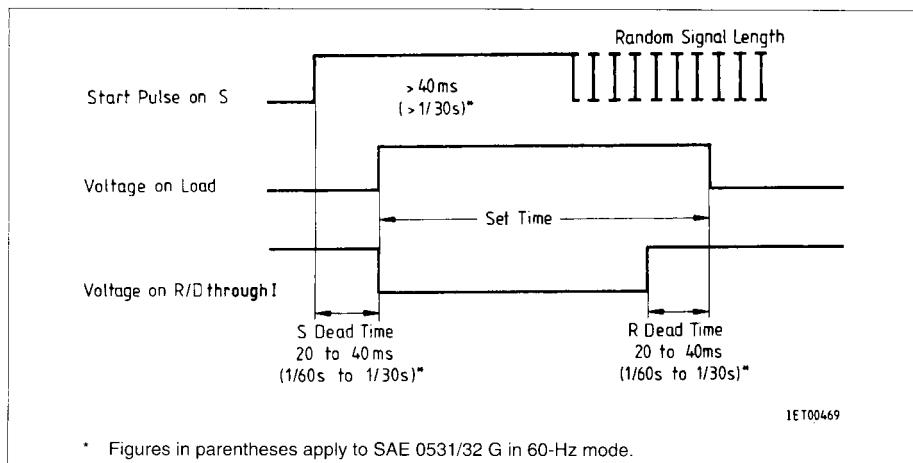

Figure 1
1. Turn-on interval DIN 46120 (figure 1)
Start of Time Measurement (Figure 1, 2)
Inputs N, S, R, FC, A, B, C (and CO)* have an internal pullup resistor, i.e. they are high if not wired. On start input S there are also clamping diodes to V_s and GND so that it is possible to start with external potential. Reset input R is usually connected to one or more of the open-collector outputs D through I, enabling cutout of the load and resetting of the counter when the set delay has elapsed. These outputs are turned off ($R = H$) in their basic state (after reset), conduct when the time measurement starts ($R = L$) and are turned off again ($R = H$) after the delay (**see Figure 1 and 2**).